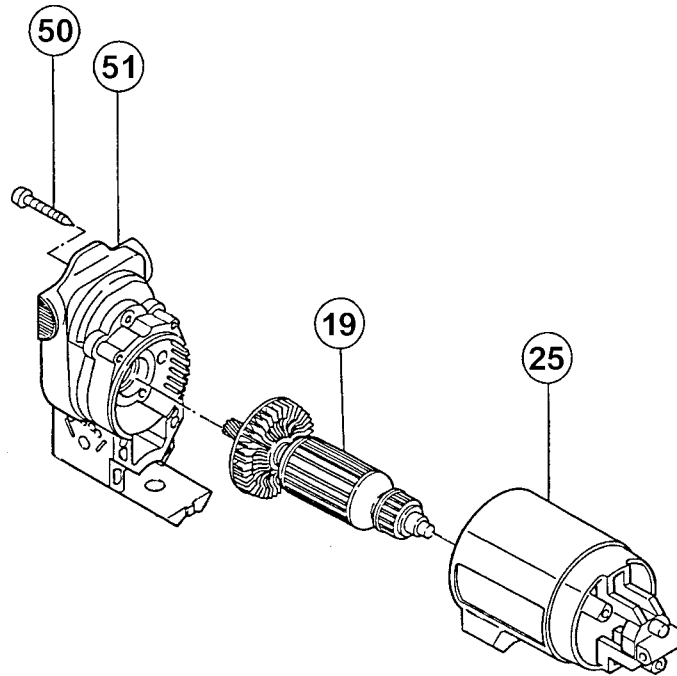

Fig. 10
(8) Disassembly of the Gear Cover [51] and the Housing [25] (Fig. 10)